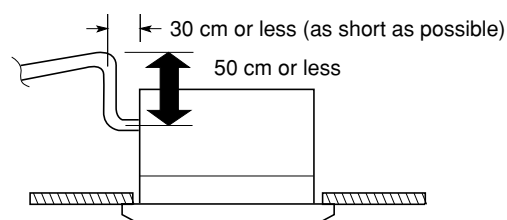

Fig. 3-13
- If it is necessary to increase the height of the drain pipe, the section directly after the connection port can be raised a maximum of 50 cm. Do not raise it any higher than 50 cm, as this could result in water leaks. (Fig. 3-13)